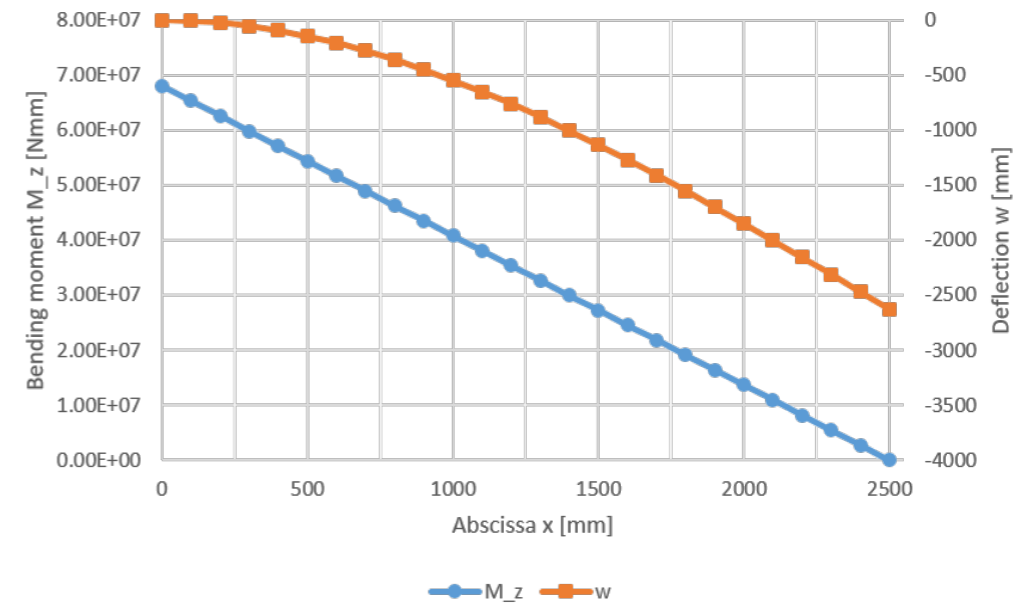
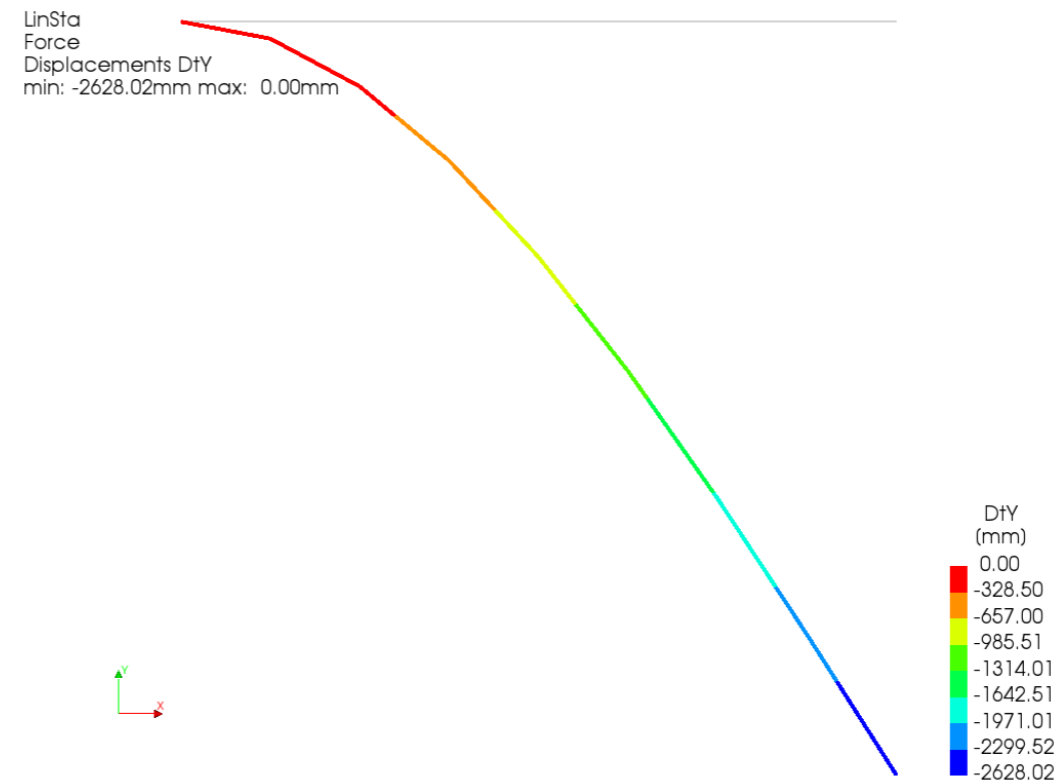
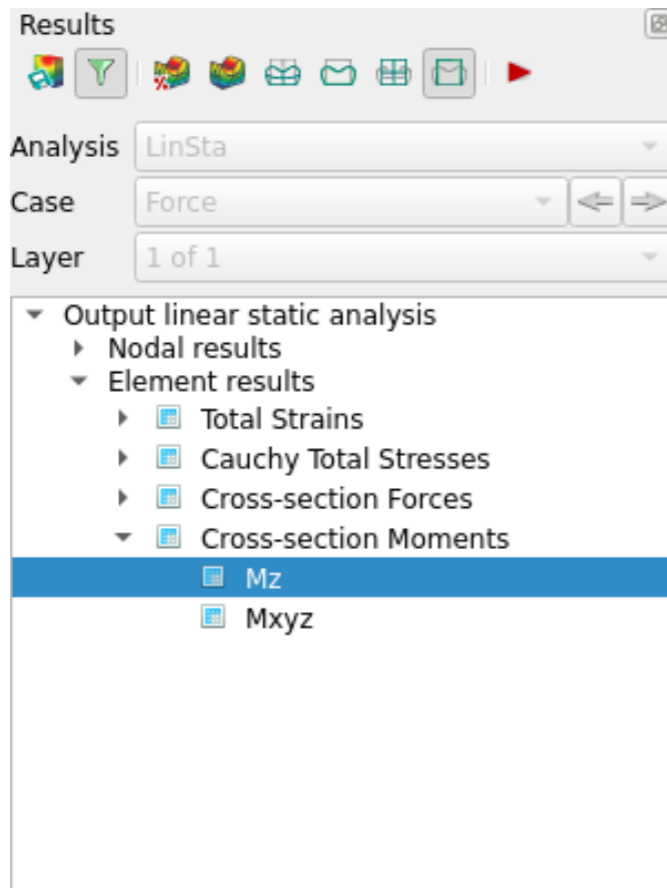
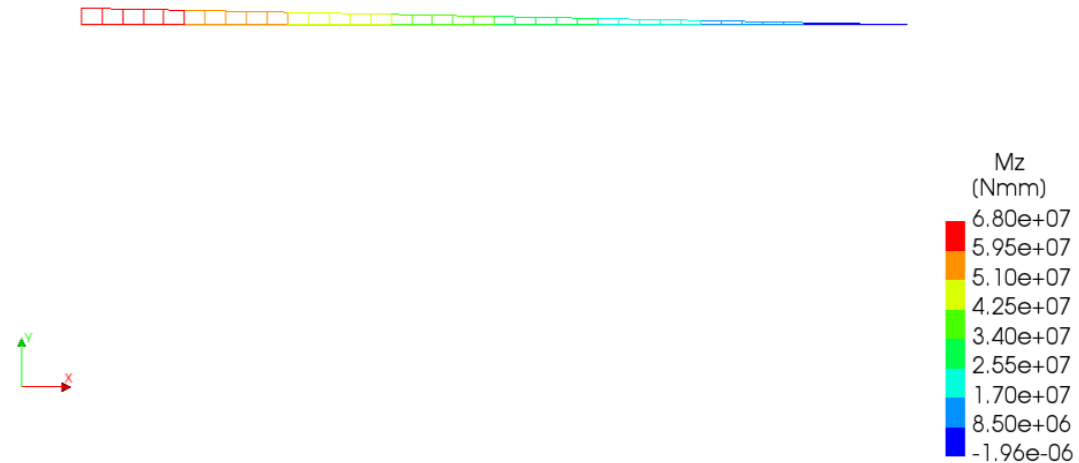

Figure 2: Distribution of bending moment and deflection along the beam
Figure 22: Absolute deflection
Figure 25: Results browser
Figure 26: Bending moment distribution
The bending moment and deflection distributions along the beam are presented in Figure 2. The largest stress values arise at the support and are equal to:
The displacements are graphically represented to check whether the structure behaves as expected, i.e. deflecting in the negative  $Y$  direction [Fig. 22]. Comparing the finite element result [Fig. 22] with the analytical result [Fig. 2] shows that the finite element model returns the same deflection as the theory.
Representing the bending moment distribution by a diagram can be done in DIANAIE [Fig. 25] [Fig. 26]. As predicted by the theory, the moment distribution is linear with a maximum value of 68 kNm at the clamp and a null value at the free end [Fig. 2] as determined by the Euler-Bernoulli theory.
**Results browser** → LinSta → Output linear static analysis → Nodal results → Cross-section Moments → Mz  → Show line diagram [Fig. 25]